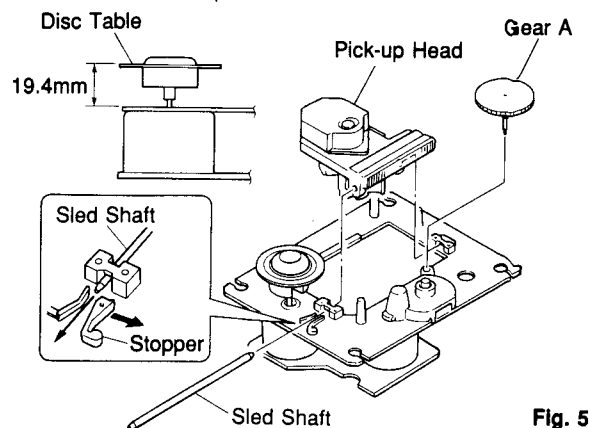

Fig. 5
- Remove the gear A in Fig. 5.
- Pull out the Sled Shaft in Fig. 5.